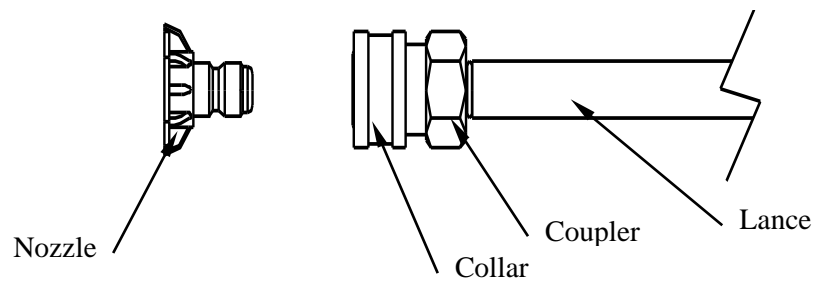

Fig. 9a
- To install the nozzle, pull the collar back and twist the nozzle firmly into the coupler on the end of the wand. (Fig. 9a)